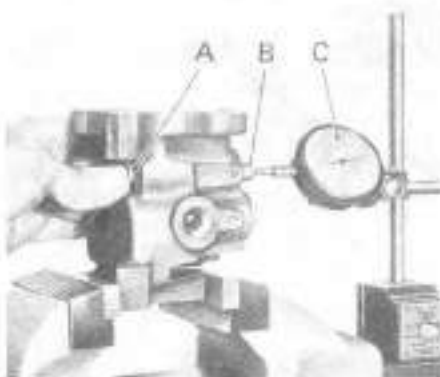

Fig. 300—View showing dial indicator being used to adjust spool valve; refer to text for procedure.
Clamp control valve assembly in soft jawed vise and mount dial indicator plunger against adjusting nut end of spool valve as shown in Fig. 300. Push opposite end (A) of spool valve inward to fully compress thrust spring and zero dial indicator with valve at this position. Release spool valve and observe dial indicator reading. Adjust inner nut so that total movement of spool valve is within 0.001 inch of dimension etched on the valve, then tighten outer nut. Recheck movement of spool valve to be sure dial indicator reading is still within 0.001 inch of setting dimension and readjust nuts if